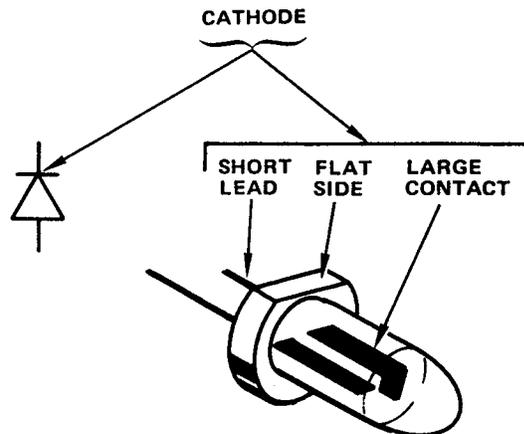

Figure 5-15. Light-emitting diode (LED) lead identification.
t. Light-Emitting Diode (LED) Replacement (Figure 5-15).